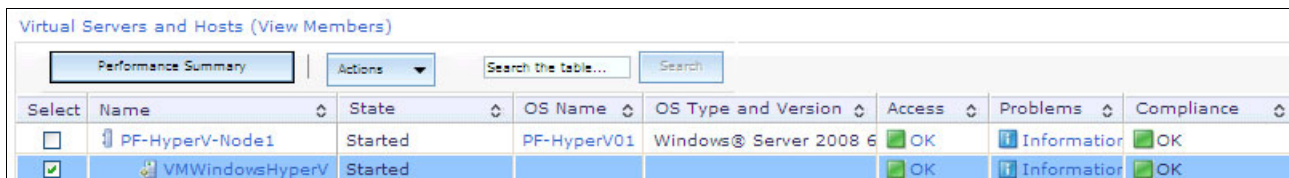

Figure 12-31 Selecting a virtual server
1. Select your virtual server as shown in Figure 12-31.